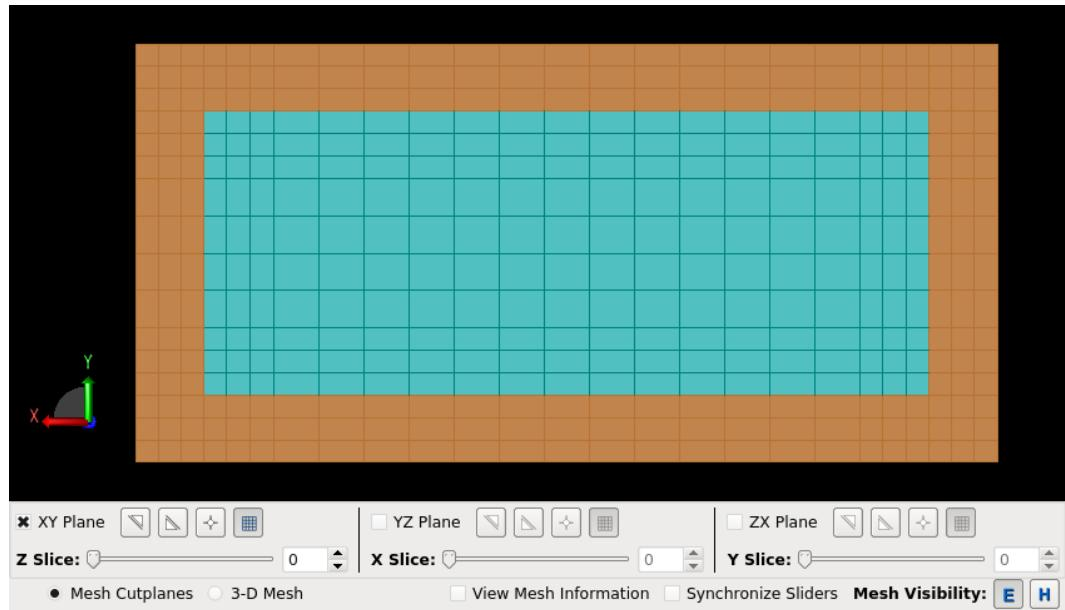

Figure 5.13: Mesh Viewing Controls
- The mesh viewing controls will appear at the bottom of the screen as shown in Figure 5.13.
- Move the slider, or use the arrows, or type into the box to move the view to slice “0” to display an XY mesh slice giving a cross-section of the waveguide at the lower Z end. As shown in Figure 5.13, the mesh edges line up exactly with the boundary between the Copper and Teflon materials. However, there is no guarantee that this will remain true if any changes are made to the geometry or grid settings. For example, changing the MIN CELLS PER WAVELENGTH setting to “18” on the GRID EDITOR will cause the meshed representation of the Copper shell to be slightly larger than modelled, reducing the inner waveguide dimensions. To prevent this from happening, we can apply Fixed Points to the WR-42’s Copper shell.